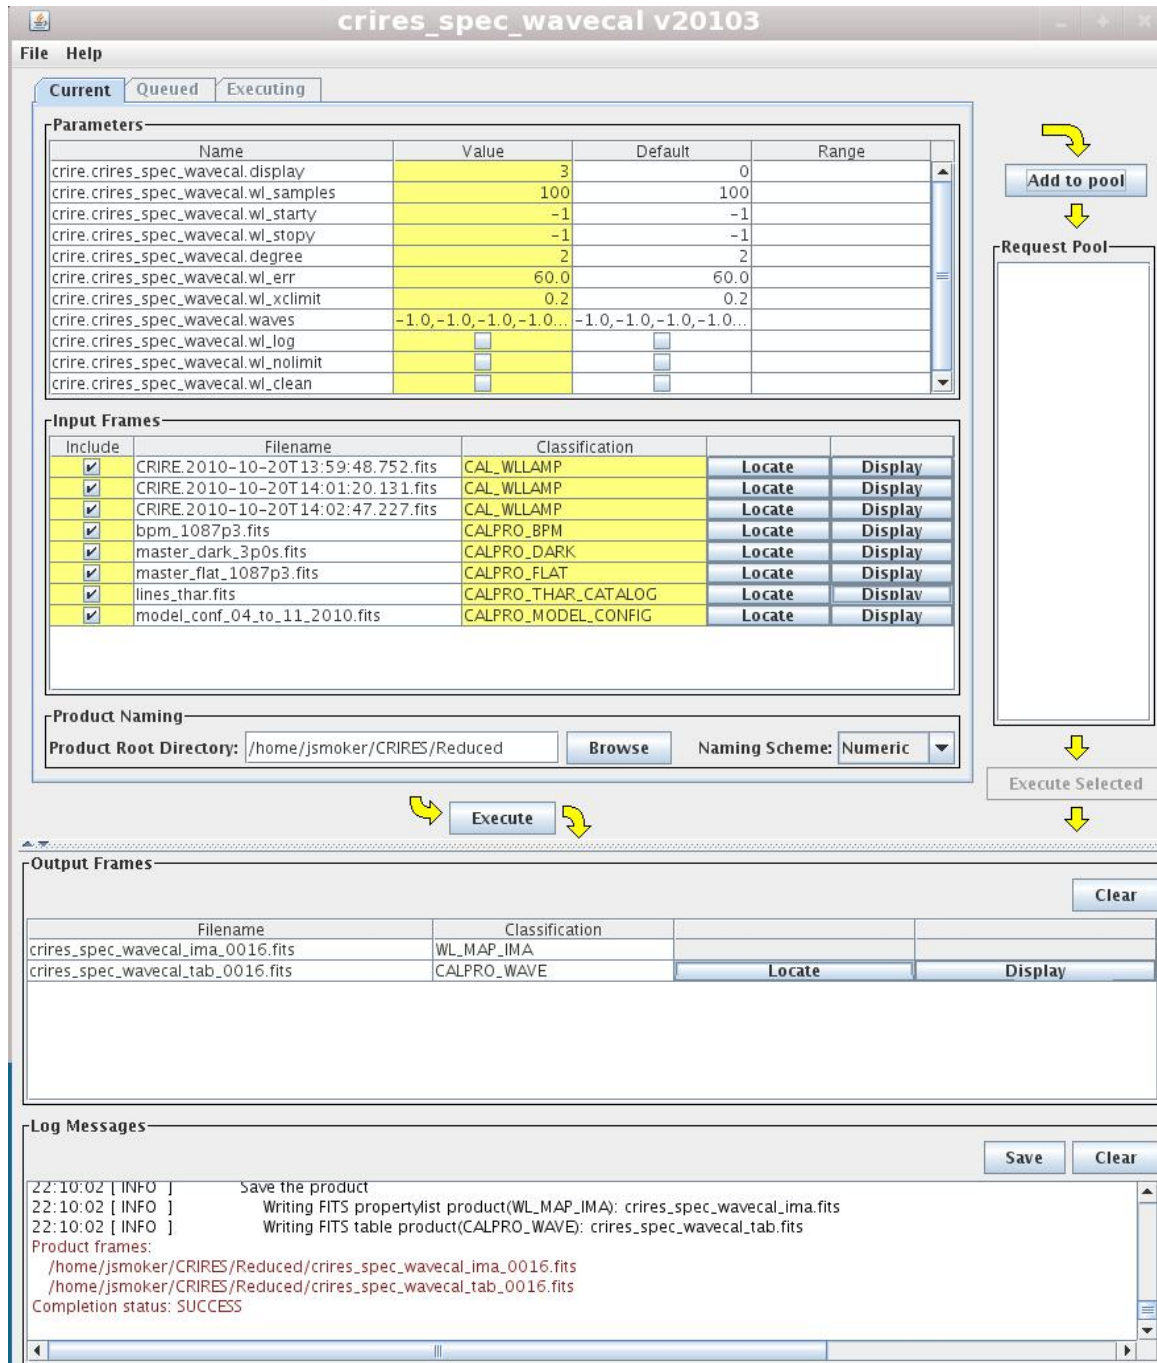

Figure 36: Apparently successful wavelength calibration using gasgano and version 2.1.3 of the pipeline, but in fact it **Failed** - see Fig. 37.
As a first attempt, Figure 36 shows the results of a **failed** attempt at wavelength calibration using the recipe `crires_spec_wavecal` and v2.1.3 of the pipeline. The calibration **failed** for two reasons (1) The detectors had the wrong boundaries and (2) The model configuration file was incorrect.